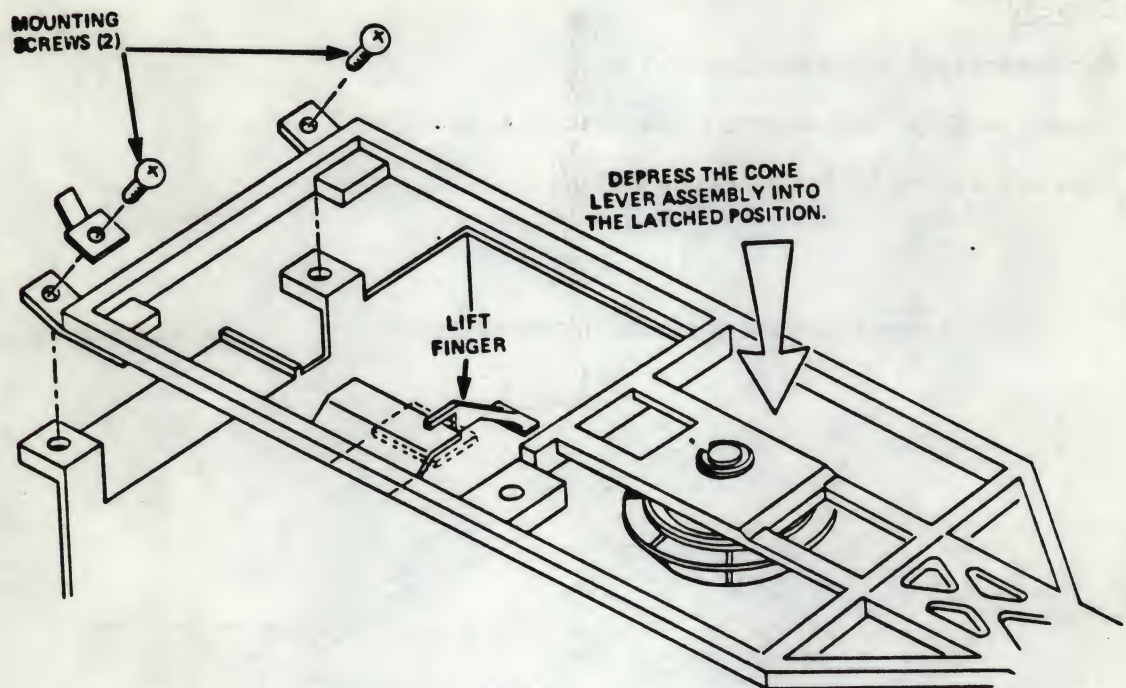

Figure 5-7
- 5.4.21 If necessary, adjust the clearance by adding or deleting a washer located under the E-ring (see Figure 5-7).